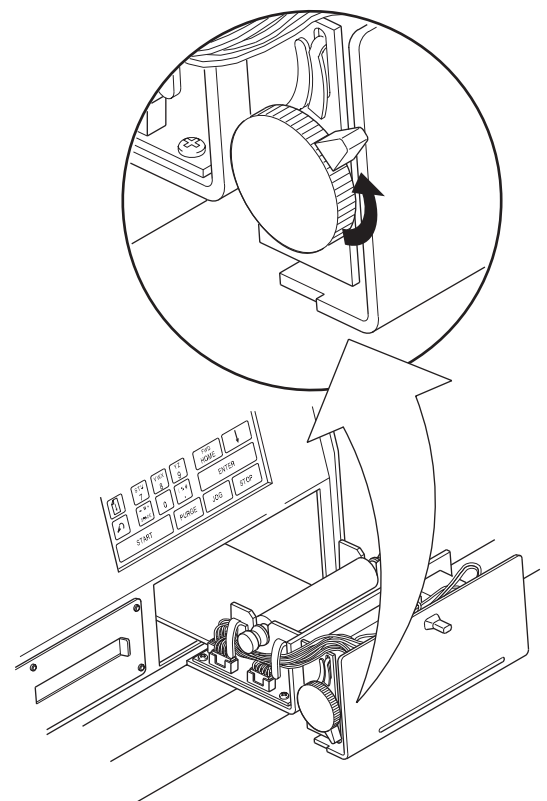

Figure 82 Lift the Printer Head
3. Lift the printer head fully by raising the lift arm located with the manual paper feed wheel next to the printer cover panel. See Figure 82.